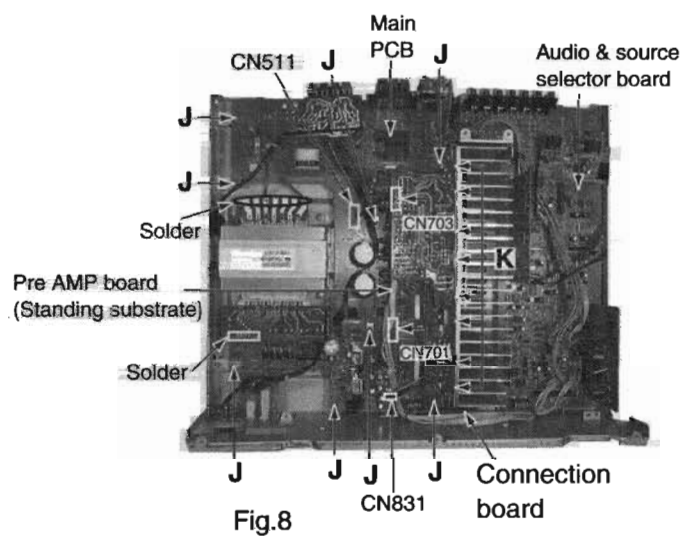

Fig.8
■ Main board Removal (See Fig.8,9)